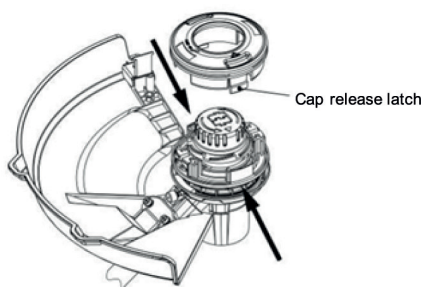

Fig. 13
1. Press both of the cap release latch on the cap and boost up it out of the spool holder (Fig.13).